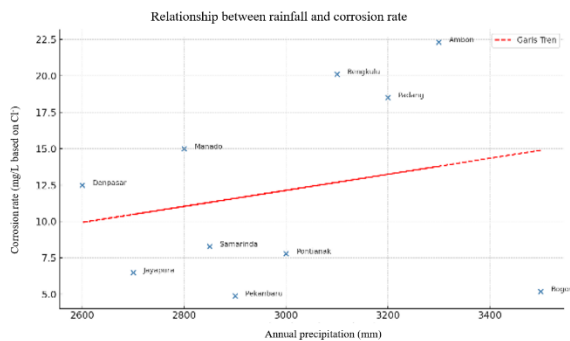

Figure 1: Relationship between annual rainfall and rust rate.
Figure 1 illustrates the relationship between annual rainfall and corrosion rate, with data points representing each region. The horizontal axis (X) denotes rainfall, while the vertical axis (Y) denotes the corrosion rate. The linear trend line demonstrates a general tendency, indicating that increased rainfall contributes to higher corrosion rates.